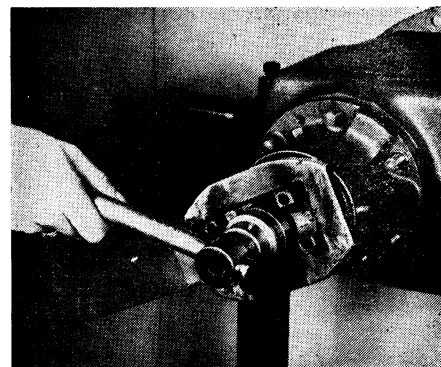

Fig. 11 Removing pinion shaft nut
12. Place pinion cage over carrier studs, Fig. 11. Hold flange and remove pinion shaft nut. (Flange or yoke may be locked in a suitable fixture.)